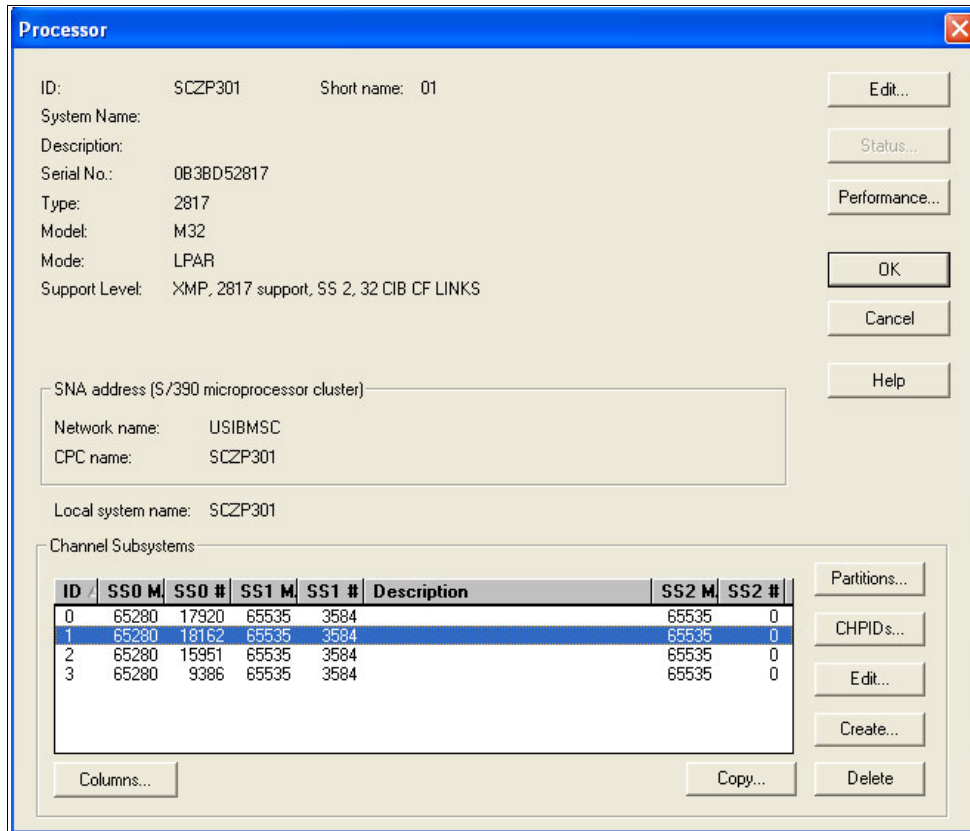

Figure 5-13 HCM Edit Processor
4. Double-click the top pane of the processor display to edit the processor, or select **Edit** → **Processor**, and select the processor from the list. Refer to Figure 5-13 on page 130.